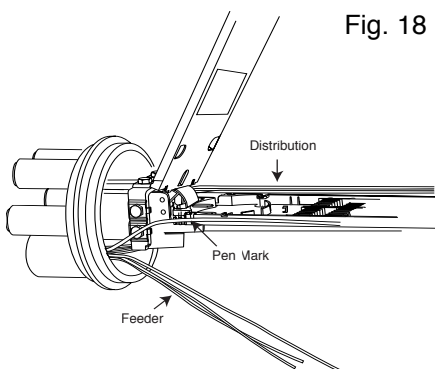

Fig. 18
1. If two trays are present, fill the bottom tray first. Use the supplied tray support wedge to hold the upper tray out of the way. (Figure 18)
3. Place a pen mark on each tube 1/4" beyond the tie-down slots. Use a buffer tube cutter to cut each tube at the mark, and remove the excess tube from each fiber group. (Figure 18)
If funnels are not used, route both central core tubes directly into the metal basket (FOSC ACC A Basket). Attach the core tubes to the basket with two tie wraps. Add intertray jumpers as described in Section 10.6 to route fibers onto trays for splicing. If distribution funnels are being used, route transportation tubes directly to trays as described in section 10.1. (Figure 18)